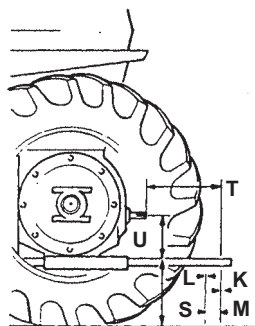

Figure 10 - Drawbar Hitch on Baler
2. The front drawbar hitch on the baler can be adjusted up or down or inverted 180° (see Figure 10) to achieve proper alignment with the tractor drawbar. The distance from the bottom of the baler hitch mount to the ground should be $17" \pm 1"$. Connect using quantity 8 of $5/8" \times 2 \frac{1}{2}"$ bolts, lock washers and nuts. Torque nuts to 240 ft. lbs.